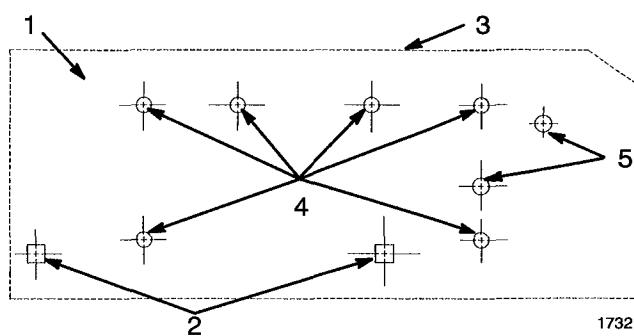

Figure 2
4. Align template with edge of discharge opening. Mark and drill (6) 11/32 in. and (2) 3/8 in. holes in top right hand surface of mower deck (Fig. 2).